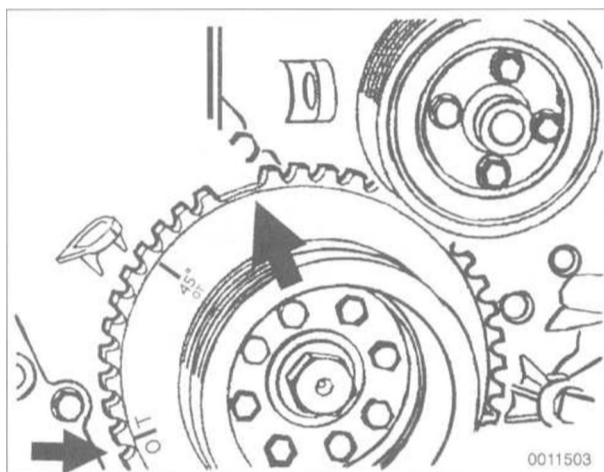

Fig. 51. Crankshaft vibration dampener positioned at 45° BTDC. Note position of 0/T mark and gap in toothed wheel (arrows)
17. Slowly turn engine over (away from direction of normal rotation) until cylinder no. 1 is at 45° before TDC (BTDC). See Fig. 51.